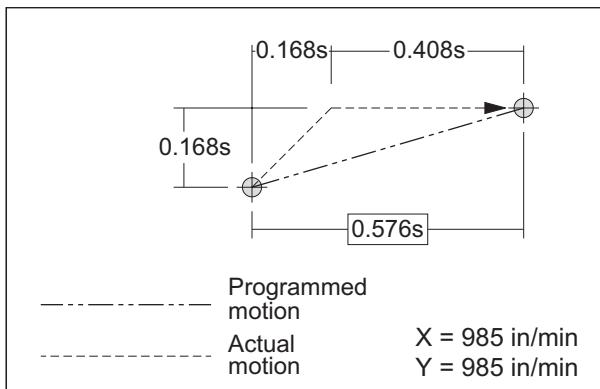

Figure 20-3
*Figure 20-3* shows a combination of an angular and a straight motion as the actual toolpath. Tool departs at the rate of 985 in/min (25000 mm/min) simultaneously in *both*